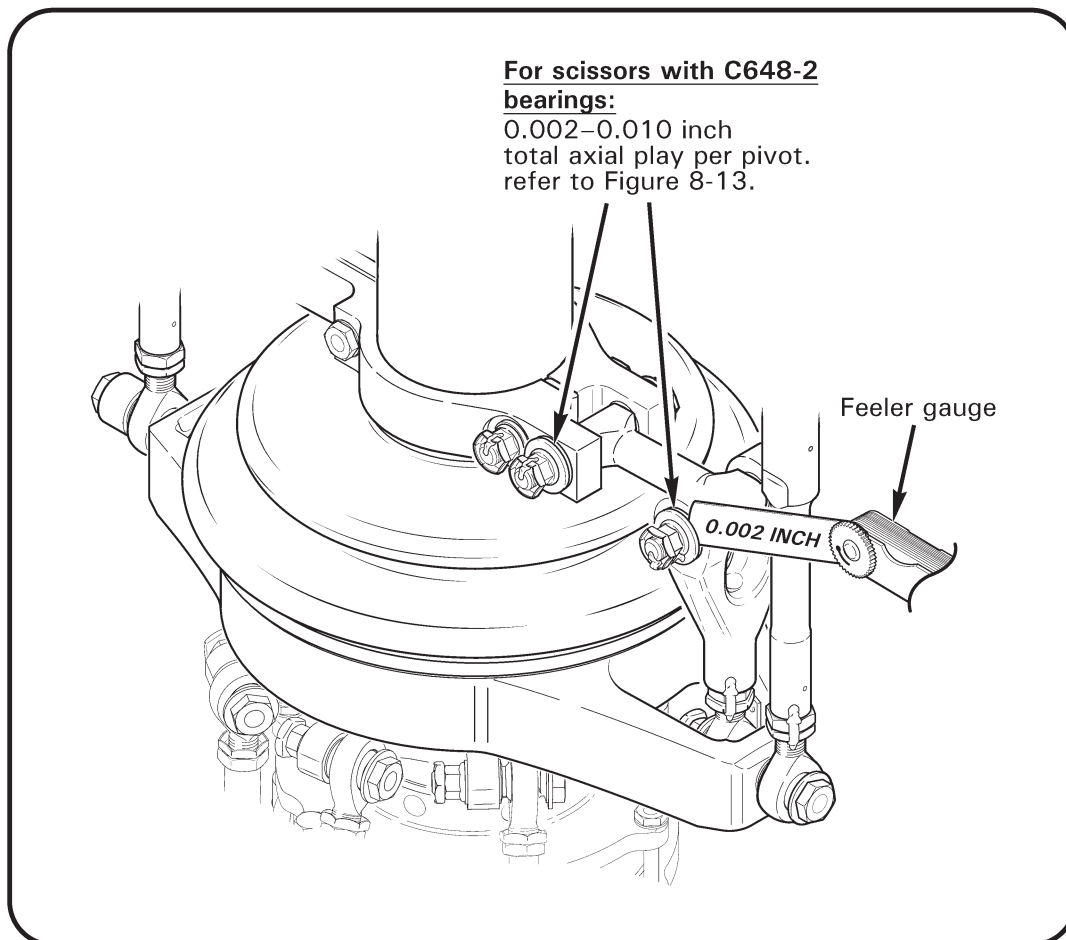

FIGURE 2-9 MEASURING UPPER SWASHPLATE SCISSOR AXIAL CLEARANCE
**Swashplate Upper Scissors:** Inspect condition. Inspect rod ends and spherical bearings per § 2.120. Measure scissors play per Figure 2-9. Observe scissor linkage while having someone raise and lower collective. Verify bolt, journals (or spherical bearing balls and spacers), and arm rotate together at each scissor linkage pivot. Verify operating clearance. \_\_\_\_\_